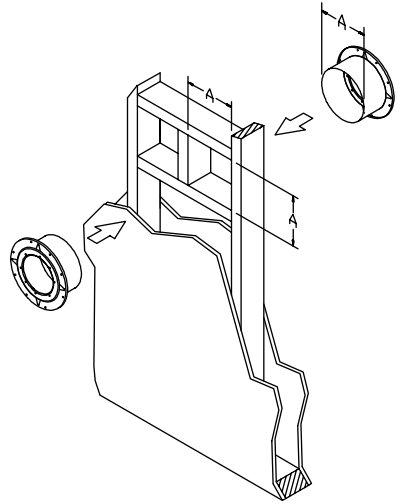

Figure 5
4. Wall Thimble. For a through-the-wall system, install the Wall Thimble, as shown in *Figure 5*. The Wall Thimble is designed to accommodate walls up to 6 inches thick. If you have thicker walls, a sleeve extension should be fabricated and attached to the existing sleeve. Do not fill the air space between the B-vent Pipe Section and the Wall Thimble with insulation, although an RTV-type sealant may be applied around the flange and nail heads if desired.